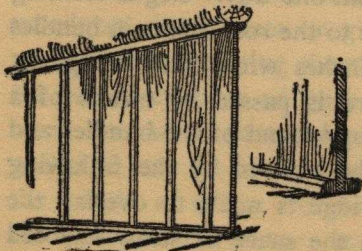

FIG. 16.
*A Second Way.*—Use unmatched, planed or not planed boards, and nail a vertical piece or batten about two inches wide and one inch thick over the joint (Fig. 16). In this case the boards should be nailed firmly at top and bottom,